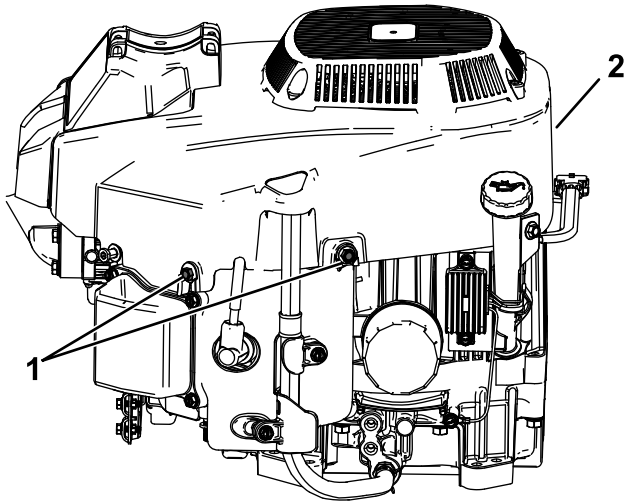

Figure 41
2. Clevis pin (2)
3. Hairpin cotter (2)
4. Loosen the bolts and remove the fan housing (Figure 41).